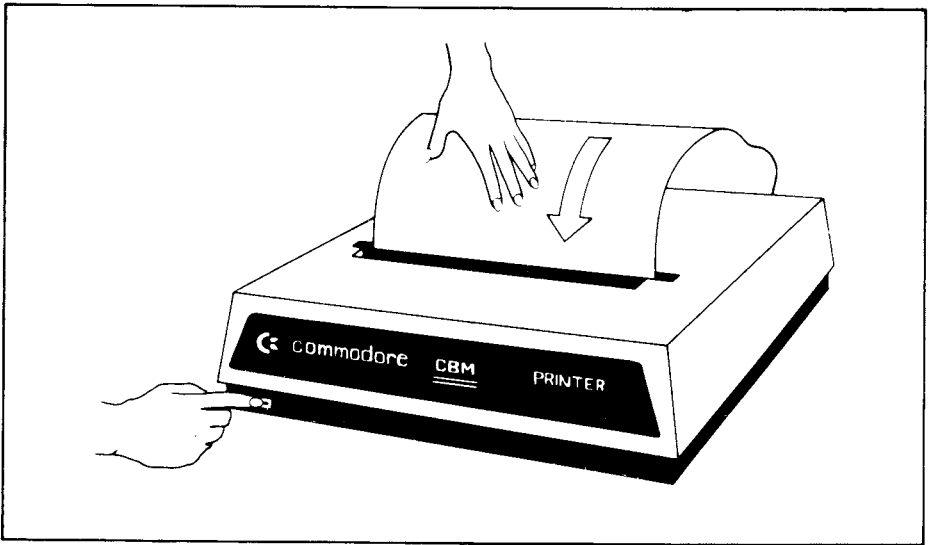

Figure 1-36. Loading Paper into Model 2023 Printer
3. While guiding the paper into the paper feed, press the paper feed button on the lower left front of the printer until the top of the paper has rolled out of the printer (see Figure 1-36).